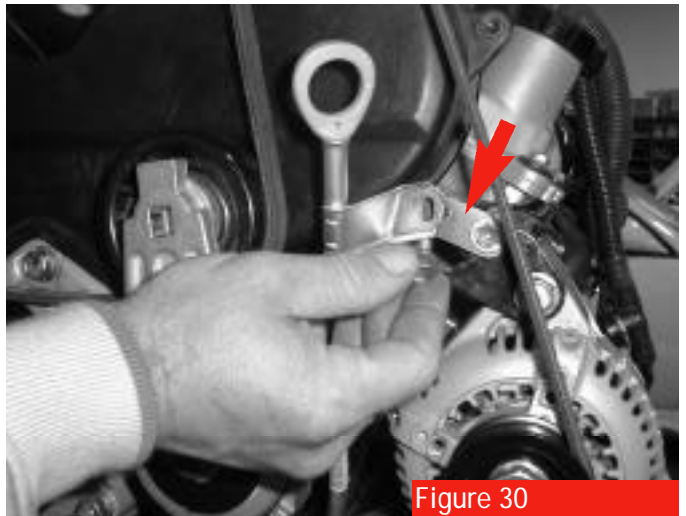

Figure 30
19. Remove the bolt holding the manifold to the intake chamber stay (**see arrow, figure 30**). Save the bolt.
9. Install the TRD-supplied dipstick relocation bracket (**see arrow, figure 30**) utilizing the factory bolt. Reinstall the factory dipstick and attach it to new bracket using the TRD-supplied bolt (6mm x 1.0 x 12mm) and the washer (6mm flat). Torque both bolts to 10 ft./lbs.